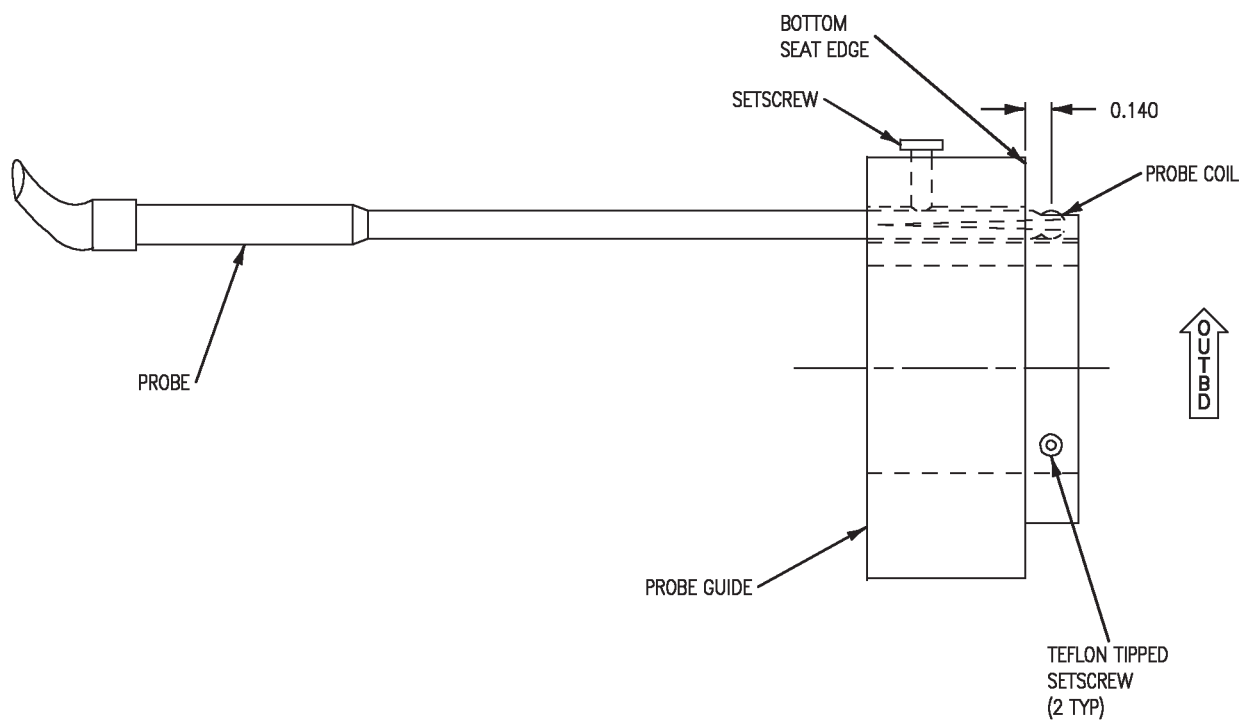

Figure 6. Probe/Probe Guide Adjustment, Setup
a. Insert probe into probe guide directing probe coil outward and approximately 0.14 inch from coil center to bottom seat edge, see figure 6.
b. Adjust two teflon tipped setscrews allowing only teflon tip of screw to protrude from probe guide, see figure 6.